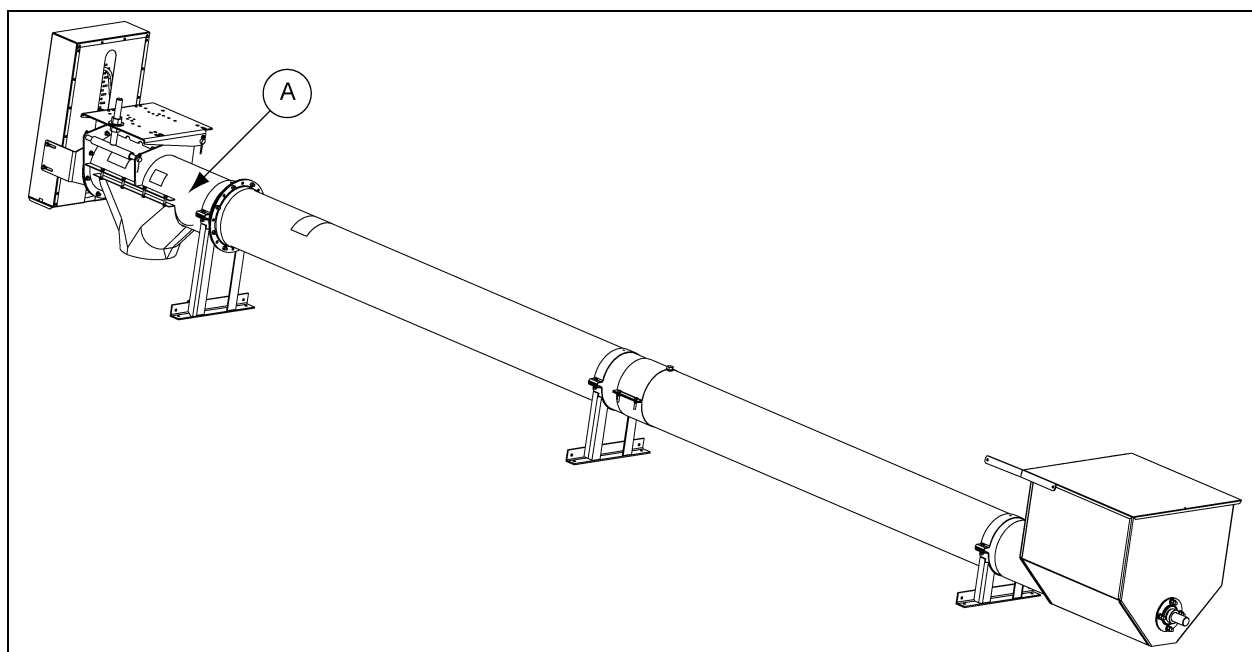

Figure 2F
1. The auger must be fixed in position and secured with brackets at all times to prevent tipping or rotation. (See Figure 2F.)